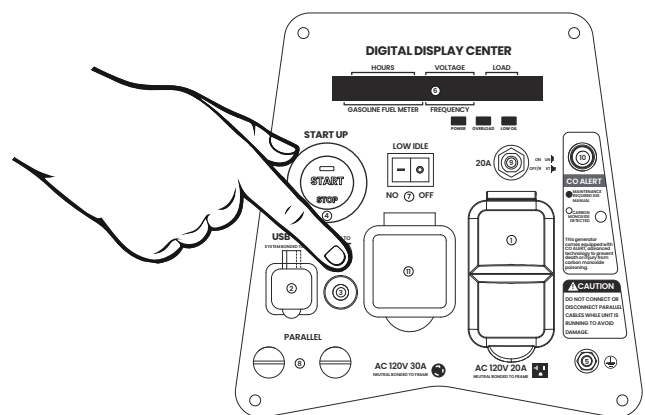

Figure 13: Press in reset breaker
3. Press in the reset breaker to reset it (see Figure 13).